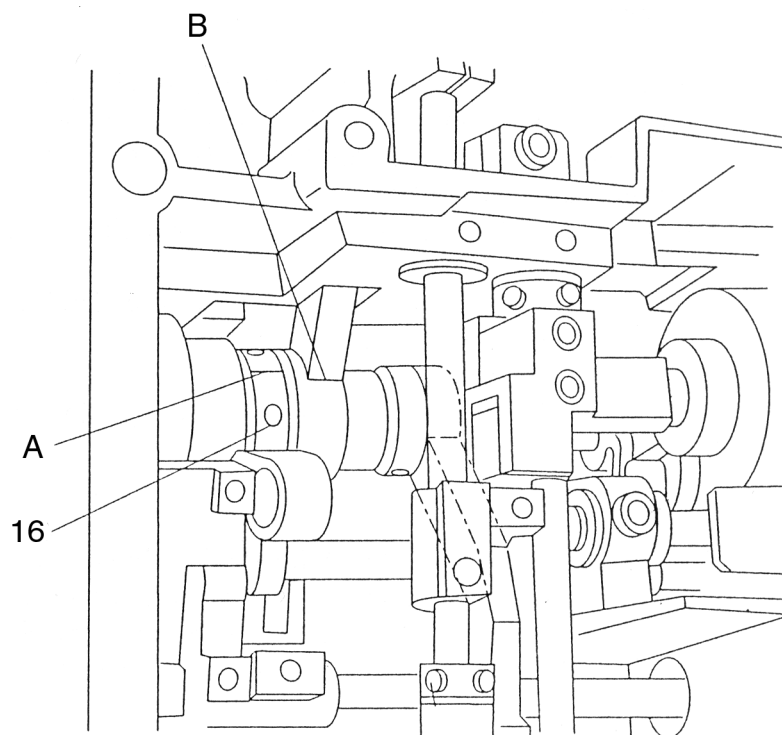

Fig. 14
- Loosen the fastening screws 16 on the stroke eccentric (fig. 14).